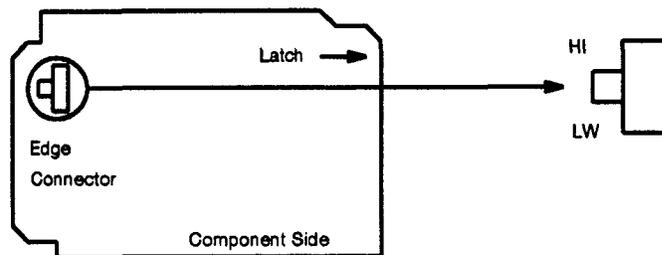

Figure 2. 20-Type OLIU Output Level Option Switch
14. Refer to **Figure 2** and, at each end of the system, set the output level option switch on both the **SRV** and **PROTN 20-Type OLIUs** as indicated in **Table A**.